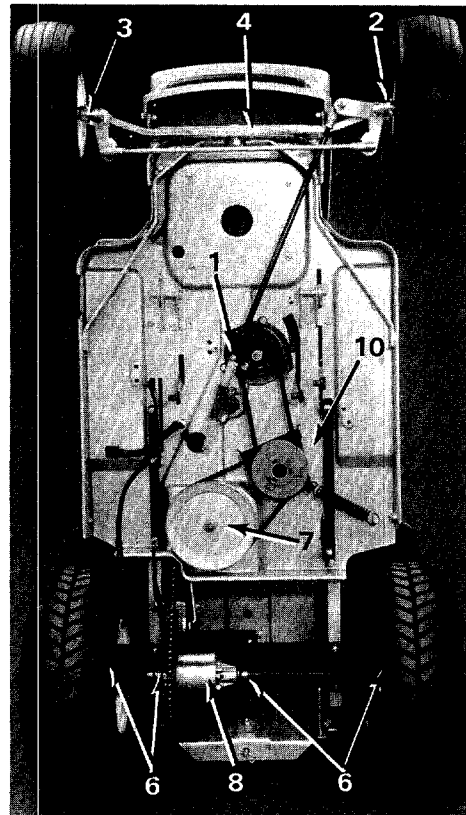

Figure 13
**Steering 1**—Rack and pinion, lubricate with multi-purpose automotive grease once a year. (See figure 13.)
**King Pin 2**—Oil with SAE 30 oil once a year. (See figure 13.)
**Wheel Bearings 3**—Oil with SAE 30 oil four times a year. (See figure 13.)
**Front Pivot Bolt 4**—Oil with SAE 30 oil once a year. (See figure 13.)
**Rear Axle Bearings 6**—Oil with SAE 30 oil once a year. Four bearings. (See figure 13.)
**Transmission 7**—The transmission is pre-lubricated and does not have to be checked. If disassembled, lubricate with 5 ounces of 450°F. grease. (See figure 13.)
**Differential 8**—The differential is pre-lubricated and does not have to be checked. If disassembled lubricate with 2 ounces of 450°F. grease. (See figure 13.)